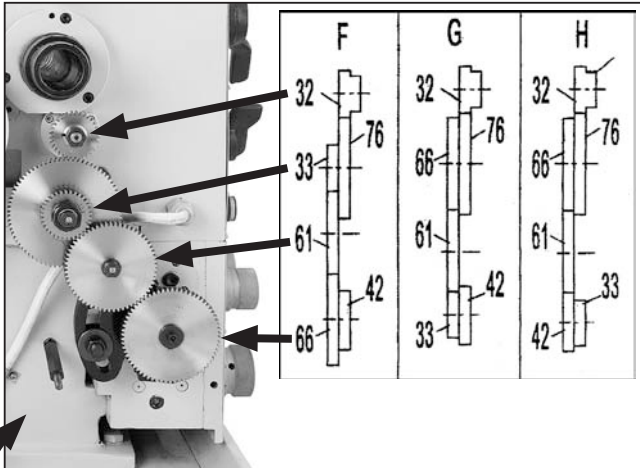

Figure 55. Change gear and chart relationship.
—"F" is the first letter in the sequence and indicates that the change gears must be rearranged in the "F" order (see **Figure 55**).
- Leaving 0.003"–0.005" backlash between gear teeth, arrange the change gears to match the order under "F" (see **Figure 55**).